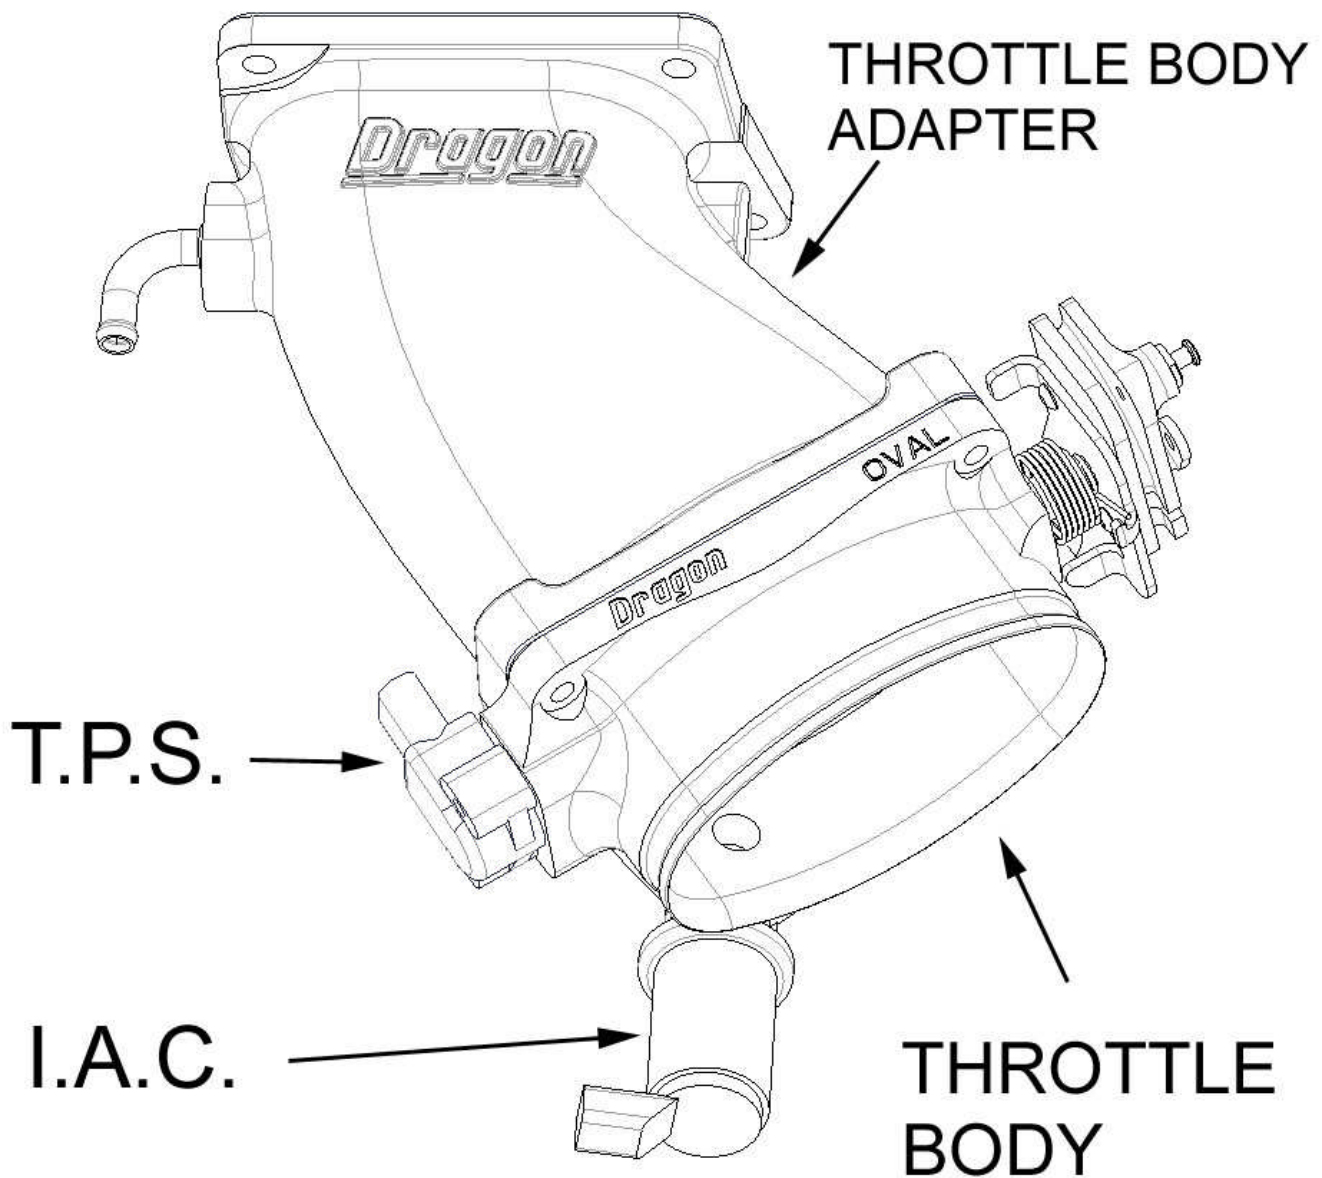

FIGURE 2
6. Install the I.A.C. onto the new Throttle body using the supplied gasket and two Socket head cap screws with washers. SEE FIGURE 2 FOR ORIENTATION. Be sure to push the I.A.C. towards the throttle body opening (away from the base) before tightening.
8. Remove and keep the four (4) bolts holding the throttle body to the throttle body adapter.
10. Install the stock T.P.S. on the new Throttle body, using the supplied screws. SEE FIGURE 2 FOR ORIENTATION. Start the screws and then hold the T.P.S. clockwise against screws, then tighten.